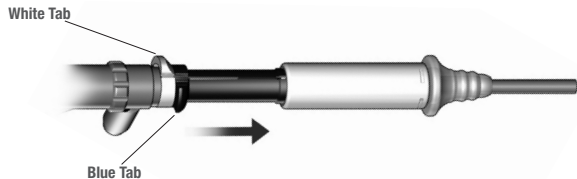

Figure 12
b. With the other hand, push the **blue tab** on the blue collar forward (Figure 12) until it locks into the “**EXTENDED**” position shown in Figure 11.